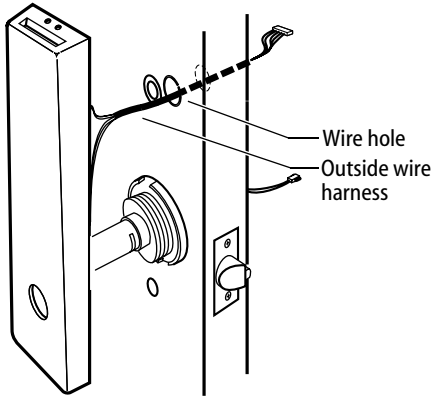

Figure 10
- 1 Feed the outside wire harness connector through the top wire hole (see Figure 10).